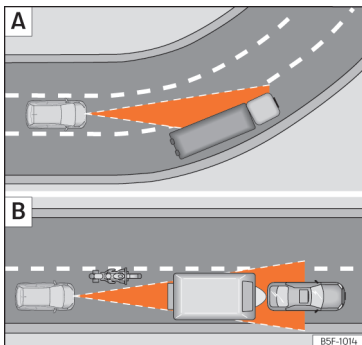

Fig. 107 [A] Vehicle on a bend. [B] Motorcyclist ahead, out of range of the radar sensor.
The ACC may not detect the vehicle in front on a curve, or may regulate the distance from vehicles in other lanes >>> **Fig. 107 [A]**.
- Vehicles that are not aligned while driving or that are outside the sensor's detection area, such as motorcycles >>> **Fig. 107 [B]**.